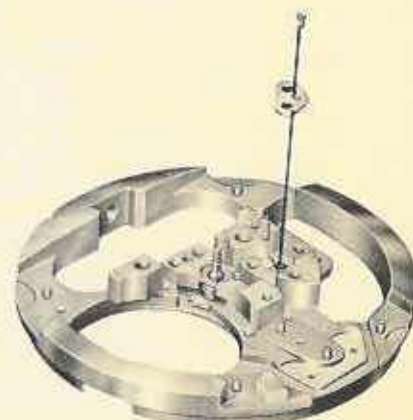

Figure 46
5. Remove lower jewel plate, which is held by one screw as shown in Figure 46.
2. Replace lower jewel plate as shown in Figure 46.